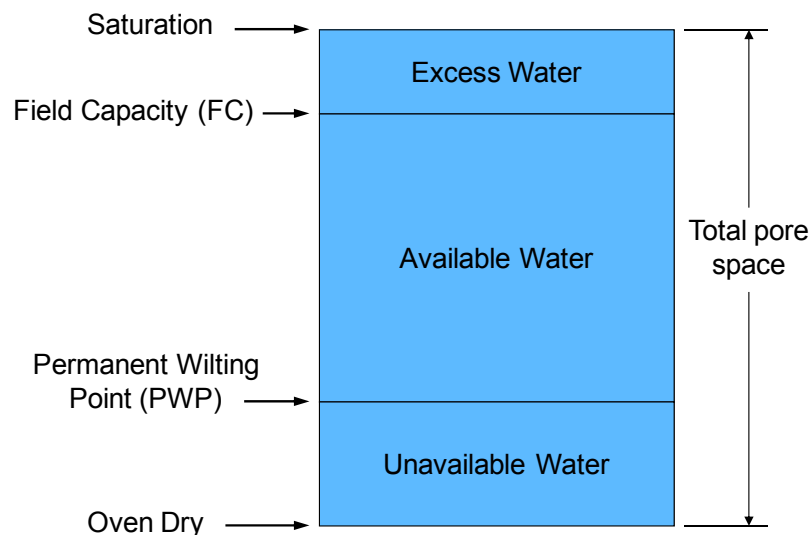

Figure 1. The various components of the soil water content.
Water is held in the empty spaces between soil particles. When these empty spaces are completely filled, the soil is said to be saturated (Figure 1). Excess water will drain out over time until a point where the soil can hold a certain amount of water indefinitely against the downward pull of gravity. This soil water content is the soil's *full* point called **field capacity (FC)** and in this application is measured in inches of water per foot of soil depth. The excess water that drains will move down to lower soil layers. Applying more water than a soil can retain in the plant's managed root zone results in water loss to **deep percolation (DP)** or "deep water loss". Water loss to deep percolation wastes water, pumping energy, and vital plant nutrients that are held in the soil water solution.